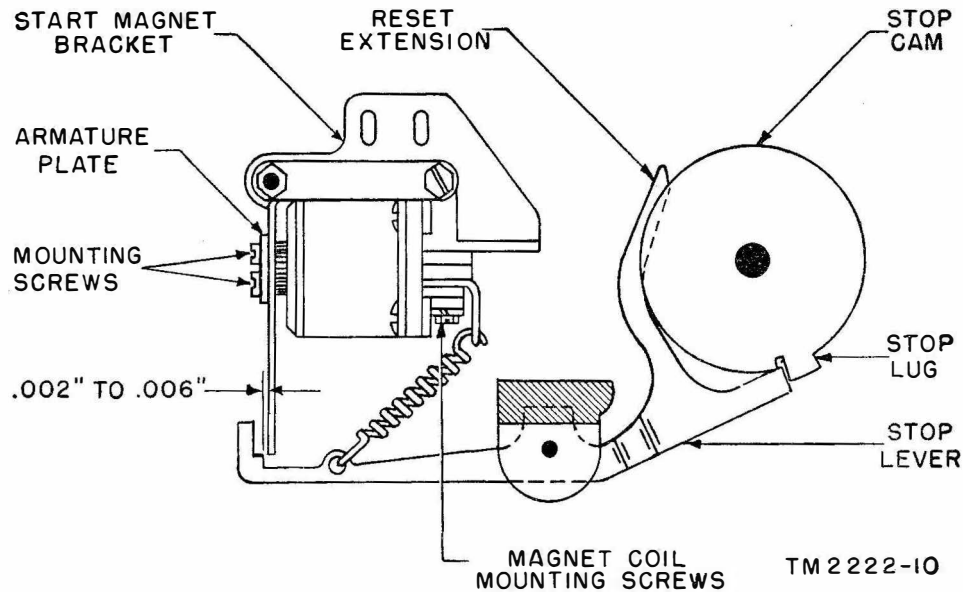
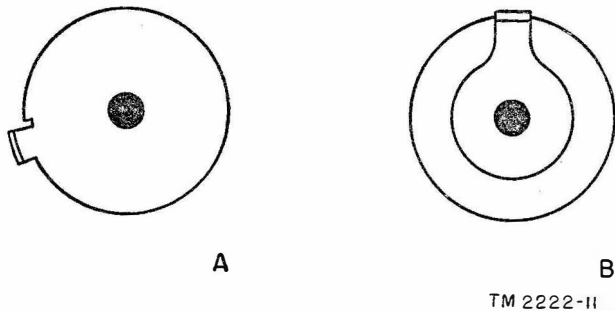

Figure 52. Magnet core (receiving transmitter distributors) requirements.
Figure 54. Types of stop cams used on receiving transmitter distributors.
(fig. 52)
*a.* Requirements and adjustments are given to cover both types of cams shown in figure 54.
When the reset extension is resting on the high part of the stop lug of the type shown in A, figure 54, there should be from .010-inch to .020-inch clearance between the top surface of the stop lever and the lower surface of the stop cam at the closest point. The stop lever should be free in its bearings, but it should not have perceptible play. To adjust, loosen the stop lever pilot screw locknuts and position the stop lever. Tighten the locknuts.
b. When the type of stop cam lugs shown in B, figure 54 is against the end of the stop lever shown figure 52, the bottom edge of the stop lever should be flush with or not more than .010 inch above the bottom edge of the lug on the stop cam. The stop lever should be free in its bearings, but it should not have perceptible play. To adjust, loosen the stop lever pilot screw locknuts and position the stop lever. Tighten the locknuts.
### 98. Start Magnet Bracket Adjustment (Receiving Transmitter Distributors) (fig. 52)